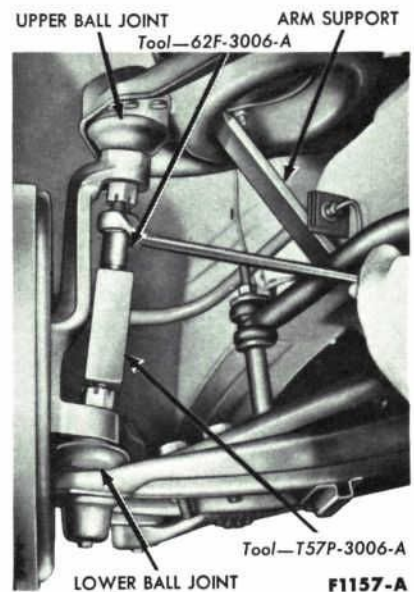
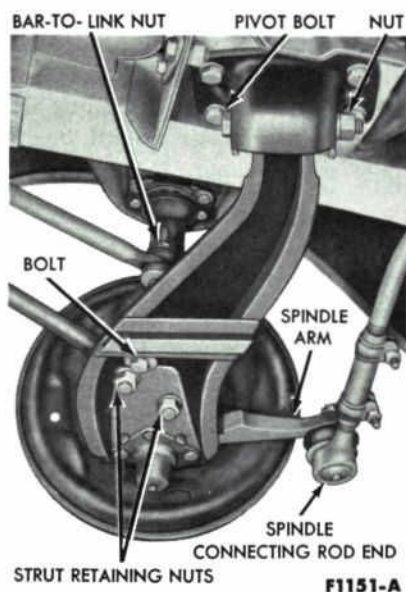

FIG. 73—Loosening Ball Joint Studs in Spindle
FIG. 83 — Lower Suspension Arm Installed
1. Position a support between the upper arm and the frame side rail as shown in Fig. 73, then raise the car and position safety stands. Remove the hub cap or wheel cover. Remove the wheel and tire assembly from the hub.
2. Remove the cotter pin from the upper ball joint stud and loosen the stud retaining nut. Position the ball joint remover tool as shown in Fig. 73. The tool should seat firmly against the ends of both studs, and not against the lower stud nut. It may be necessary to remove the lower ball joint cotter pin if it prevents the tool from seating on the lower stud.
1. Position a support between both the left and the right suspension upper arms. Fig. 73 shows the support under one arm. Raise the car and position safety stands.
4. Remove the cotter pins from both ball joint stud nuts and loosen the nuts one or two turns. **Do not remove the nuts from the studs at this time.** Position the ball joint remover tool between the upper and lower ball joint studs (Fig. 73). The tool should seat firmly against the ends of both studs and not against the stud nuts.
between the upper and lower ball joint studs. The tool should seat firmly against the ends of both studs and not against the stud nut (Fig. 73). Turn the tool with a wrench until the tool places the studs under tension. Tap the spindle near the upper stud with a hammer to loosen the stud in the spindle. Do not loosen the stud in the spindle with tool pressure only. If both arms are being removed, loosen the lower stud in the same manner.
1. Position a support between both the left and the right suspension upper arms and the frame. Fig. 73 shows the support under one arm. Raise the car and position safety stands. Remove the stabilizer bar and link retaining nut. Disconnect the bar from the link and remove the link bolt (Fig. 83).
3. Straighten the cotter pin on the upper ball joint stud nut. Position the ball joint remover tool between the upper and lower ball joint studs in the reverse position from that shown in Fig. 73. The tool should seat firmly against the ends of both studs and not against the stud nuts. Turn the tool with a wrench until the tool places the studs under tension. Tap the spindle with a hammer
1. Position the lower arm to the underbody bracket and loosely install the pivot bolt, washer, and nut (Fig. 83). Raise the lower arm and guide the lower ball joint stud into the spindle bore. Loosely install the stud retaining nut.
1. Position the block (Fig. 73) under the upper arm for support. Raise the car, position safety stands, and remove the wheel and tire.